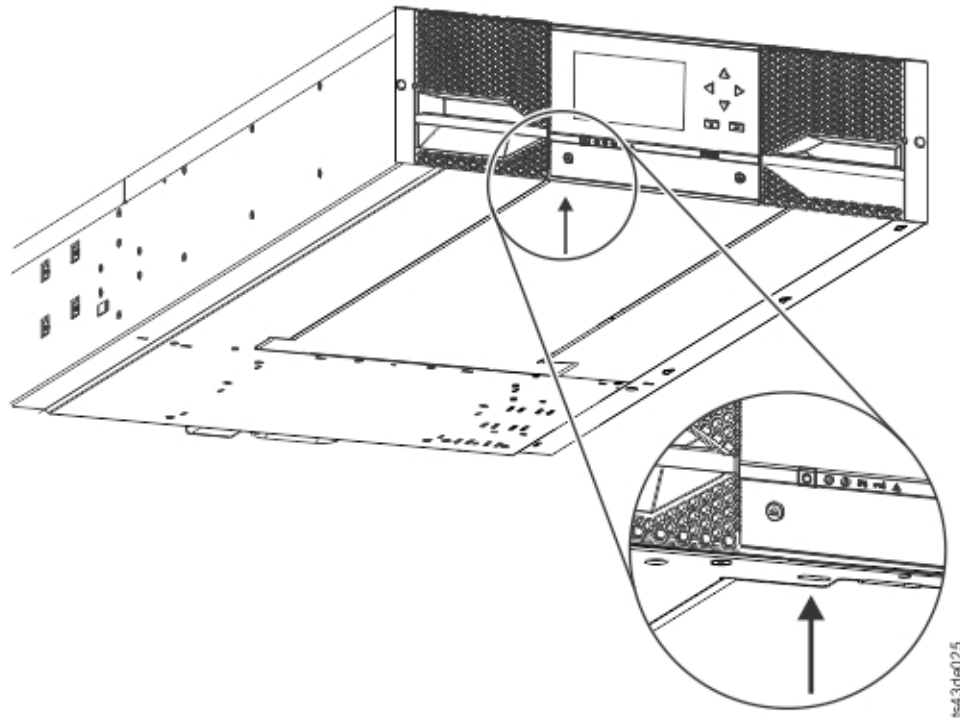

Figure 34. Unlocking the spring loaded lock
- c. Support the bottom cover with one hand. Insert a small flathead screwdriver or Torx screwdriver into the hole and slide about 4 mm sideways to the left to unlock the spring loaded lock. See Figure 34 on page 41.